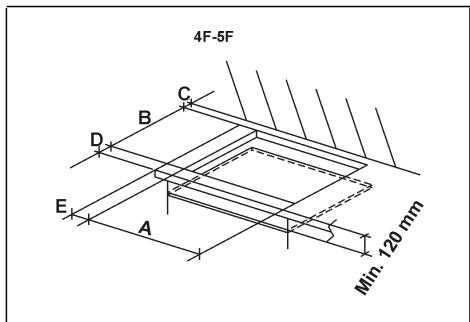

FIG. 7
The measurements of the opening made in the top of the modular cabinet and into which the hot plate will be installed are indicated in either fig. 7. Always comply with the measurements given for the hole into which the appliance will be recessed (see fig. 7 and 8). The filotop model needs of a milling on the plan top of depth 3 mm, measures are shown in figures 10/A and 10/B of next page. It is advisable to spread on the milled surface a layer of "primer" anti-infiltration. **The appliance belongs to class 3 and is therefore subject to all the provisions established by the provisions governing such appliances.**
- In order to avoid accidental touch with the overheating bottom of the hob, during the working, is necessary to put a wooden insert, fixed by screws, at a minimum distance of 120 mm from the top (see fig. 7).